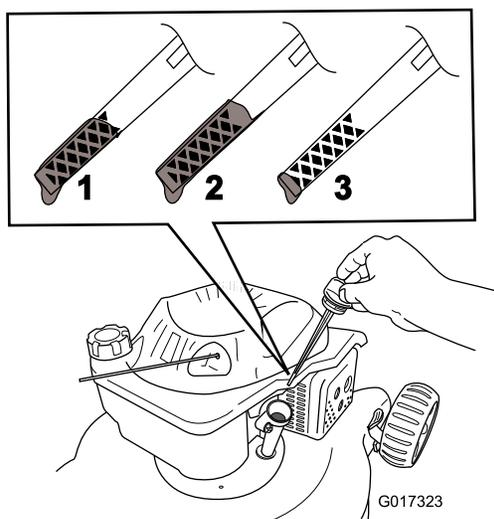

Figure 21
- Note:** Fill the engine crankcase with oil until the dipstick indicates that the engine oil level is correct as shown in (Figure 21). If you overfill the engine with oil, remove the excess oil as directed in 5.